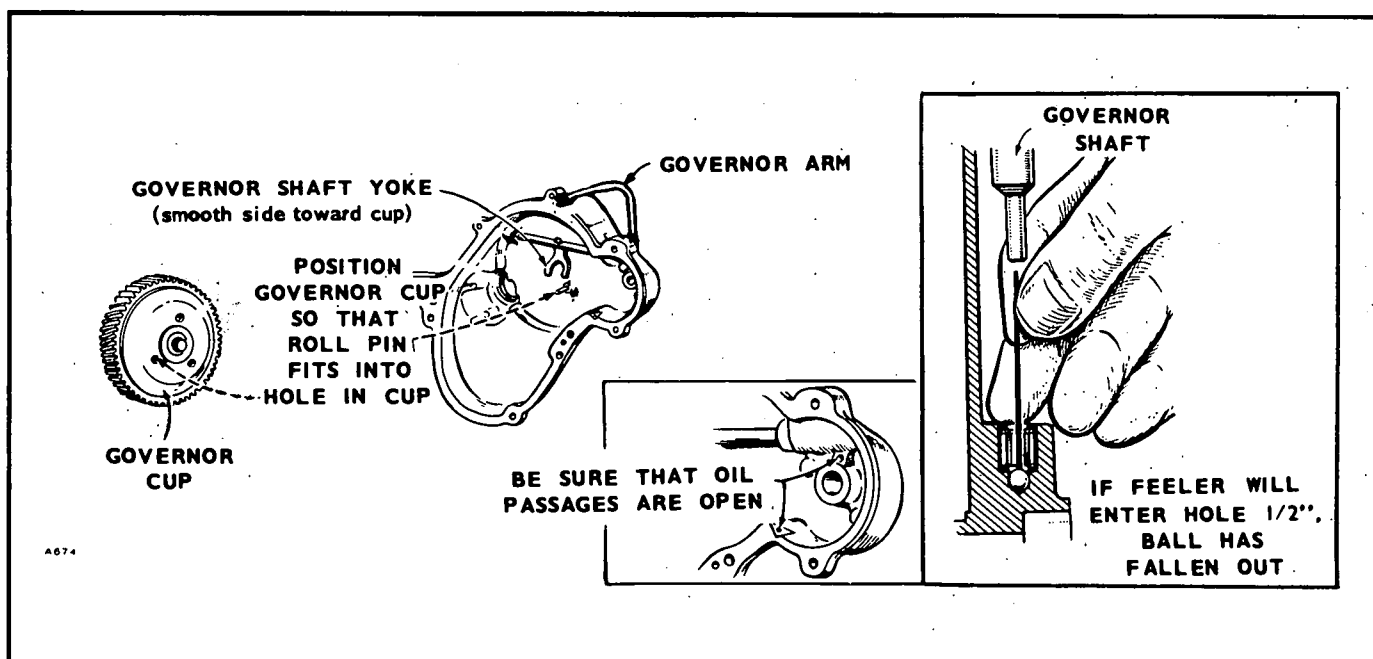

FIGURE 42. GEAR COVER ASSEMBLY
1. Work the governor shaft to check for binding and see that the governor shaft end thrust ball is in place (Figure 42). Later models have larger ball which will not fall out.
surface (Figure 42). Measure the distance from the end of the stop pin to the mounting face of the cover. It should be 25/32-inch. If it is not, replace the pin. Pin should be positioned with open end facing crankshaft seal.